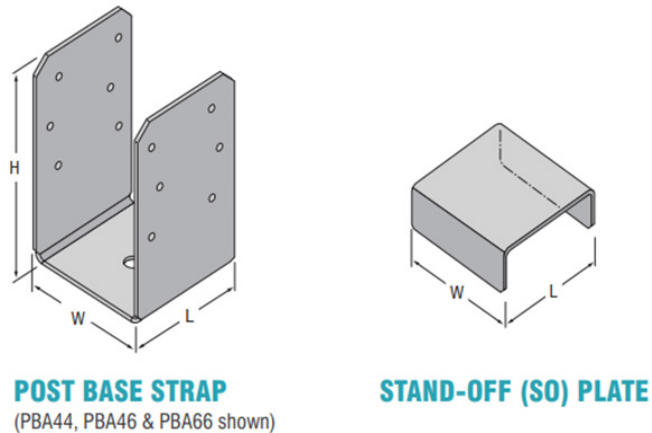
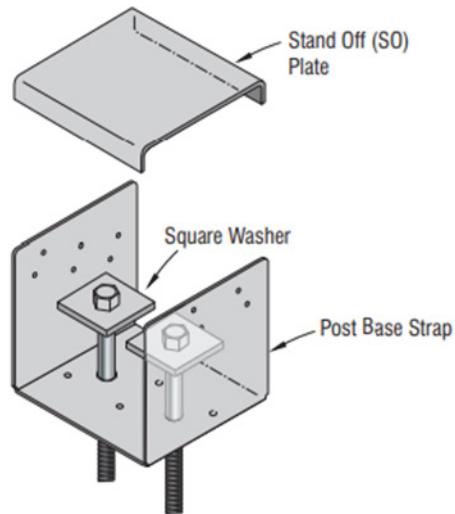

Figure 1. PBA44, PBA46 and PBA66
Figure 2. PBA77 and PBA88
- 1.1.1 Post Base Anchors (PBA) are used to attach the base of a wood post to a concrete foundation. The PBAs are comprised of a Post Base Strap and Stand-Off (SO) Plate (**Figure 1** and **Figure 2**). The SO Plate is designed to provide a 1" clearance between the bottom of the wood post and top of foundation in order to meet IBC Section 2304.12 and IRC Section R317 requirements for protection of wood-based products against decay. The PBA Post Base Strap and SO Plate are 12-gauge steel (minimum thickness with coating is 0.0994"). The PBA66 Post Base Strap is also available in 10-gauge steel (minimum thickness with coating is 0.1250"). The PBA is manufactured from ASTM A653 Structural Steel, Grade 50, Class 3 ($F_u = 70$ ksi, $F_y = 50$ ksi) steel galvanized with G185 (min.) zinc coating. See **Table 1** for fastening schedules.